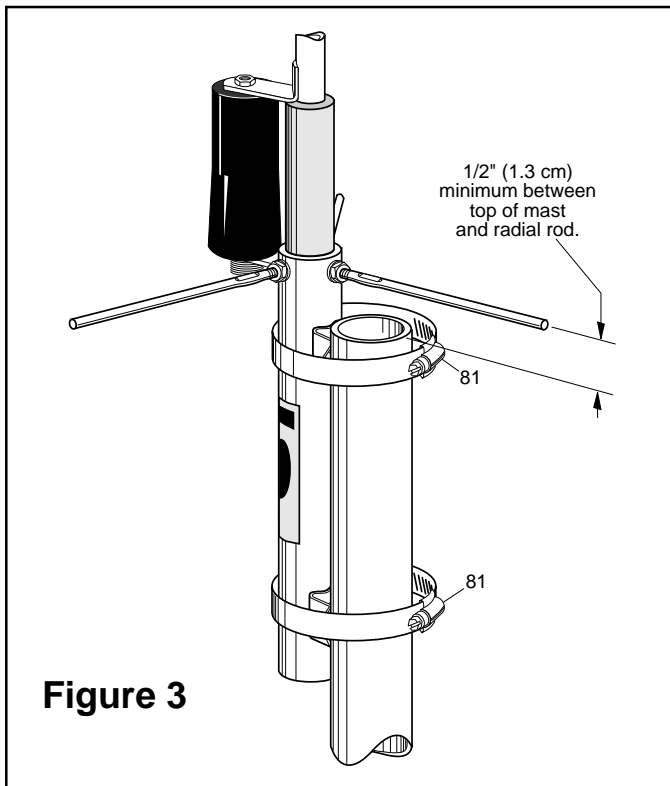

Figure 3
Attach the AR-270 to the top of your mast which can be 1-1/4" to 2" (3.2-5.1 cm) outside diameter. Using the large worm clamps (81) secure the antenna to the top of the mast (figure 3). The radials should be at least 1/2 inch (1.3 cm) above the top of the mast.